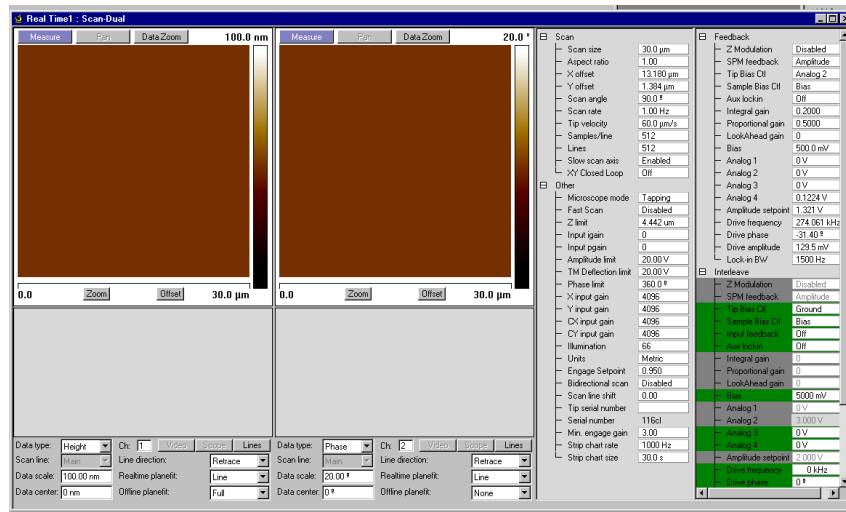

Figure 15: the scan dual display.
- “Scan Dual” shows the same kind of information for two channels, the control parameter list on the right is a bit messier than the control panel in “scan single” (Figure 15).